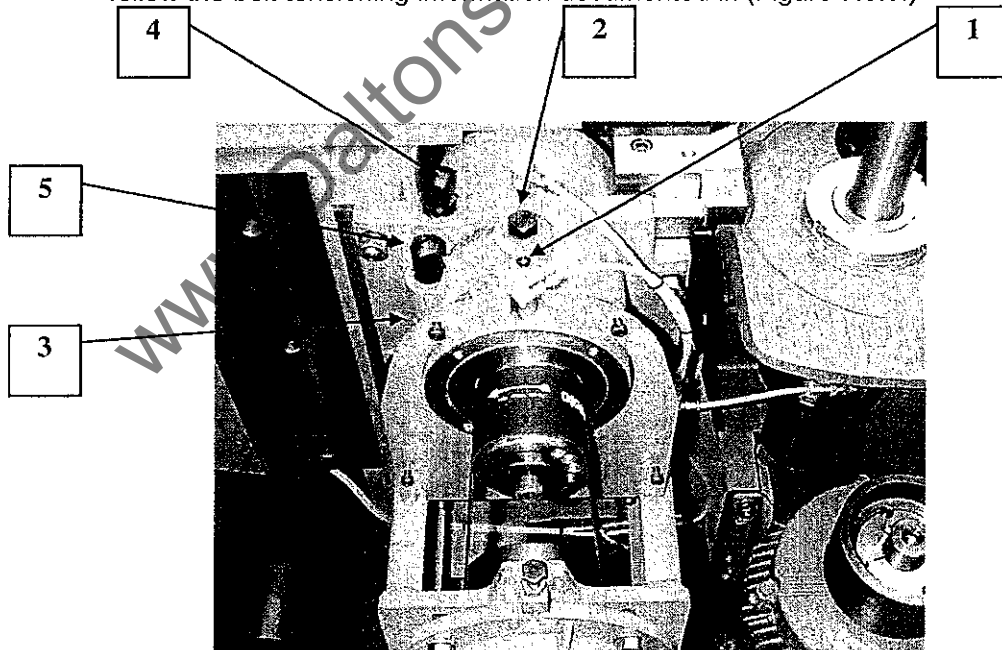

Figure 7.3.3
7.3.3 Removal of K30 First Bottom Head Spindle (Figure 7.3.3.)